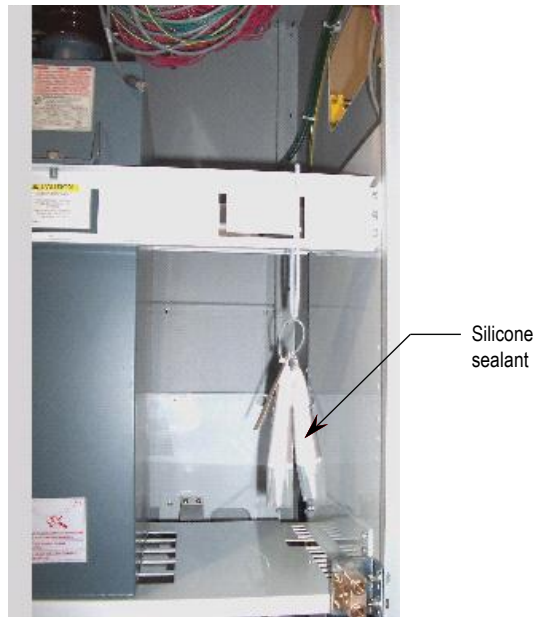

Figure 2.31 – Capacitor Cabinet
- Use supplied silicone (see Fig. 2.31) to seal between cabinets to prevent moisture or dirt from entering. Join sidesheets with M6 Taptite thread forming screws in holes provided.